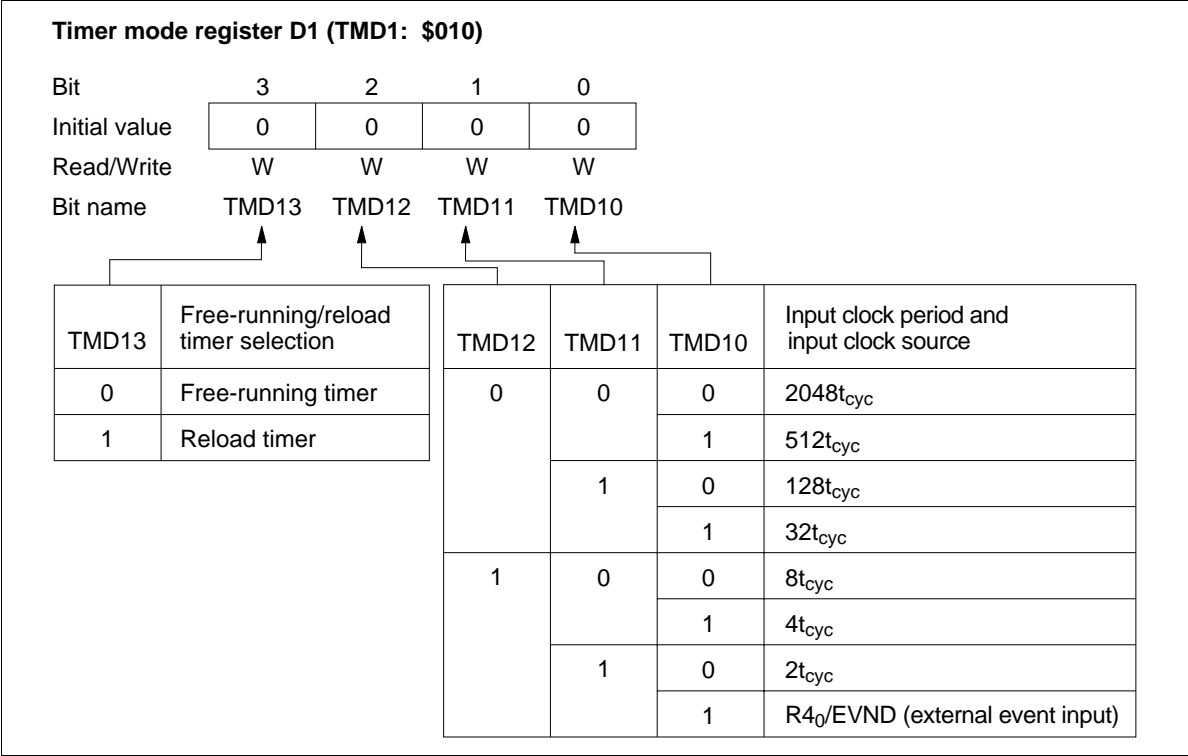

Figure 60 Timer Mode Register D1 (TMD1)
- Timer mode register D1 (TMD1: \$010): Four-bit write-only register that selects the free-running/reload timer function, input clock source, and the prescaler division ratio (figure 60). It is reset to \$0 by MCU reset.